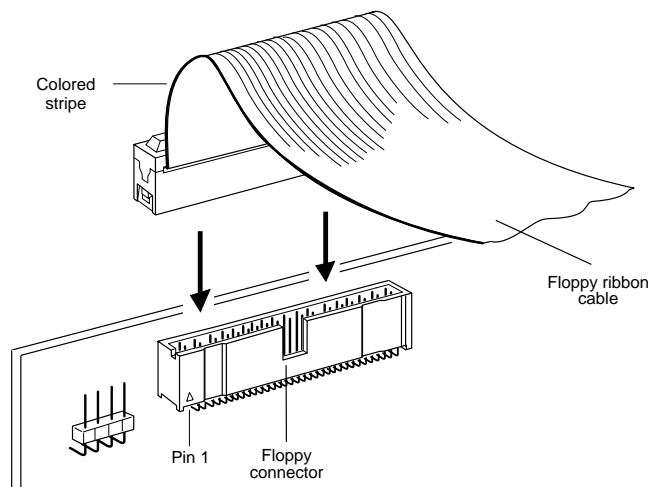

Figure 3-11. Connecting Floppy Cable to Host Adapter
- 1 Connect the non-split end of the 34-pin floppy ribbon cable to the floppy connector, as shown in Figure 3-11.